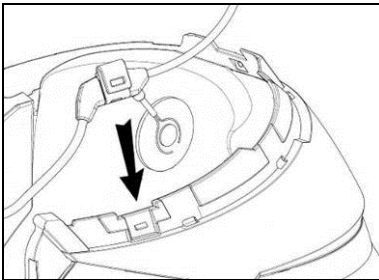

Fig. 7
- Fix the cable inside the helmet and make sure the right fixing clip snaps into its housing (Fig. 7)